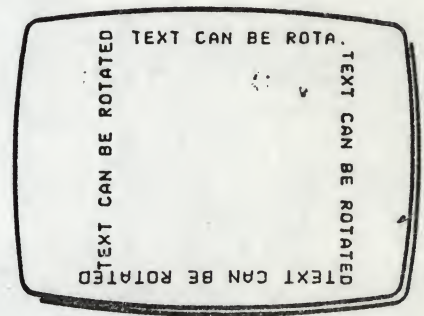

Fig 7
- 6 Press and release T to draw the text in the chosen orientation, as in Fig 7.